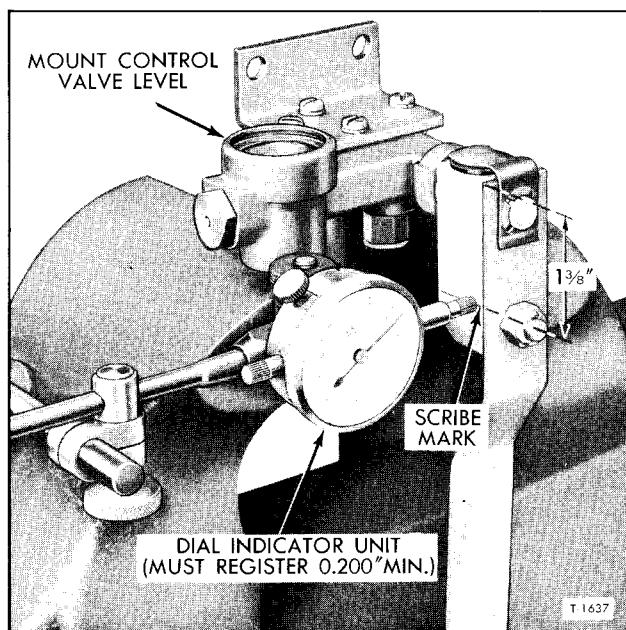
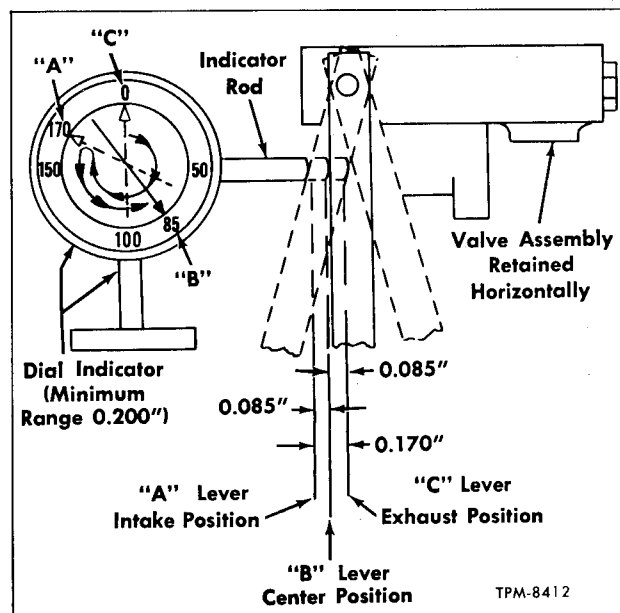

Figure 26—Dial Indicator Properly Installed
Figure 27—Locating Valve Overtravel Lever Center Position
4. Referring to figure 26, scribe a line 1-3/8-inch from plug end of overtravel lever control body.
5. Place valve assembly in vise as shown in figure 26.
8. Locate dial indicator in position as shown in figure 26. Move overtravel lever to full air exhaust position - TOP OF DELAY PISTON FLUSH WITH TOP OF BORE - without overtraveling (position "C," fig. 27). Relocate indicator push rod to just contact 1-3/8 inch mark on control body and reset indicator dial to zero (0) at this point (position "C," fig. 27).
9. Move overtravel lever to full air intake position without overtraveling (position "A," fig. 27) (delay piston at bottom of bore). Take indicator reading which may vary from 0.160" to 0.190".
11. Divide the total travel dimension by two (example: $0.170" \div 2 = 0.085"$), then move overtravel lever back this amount (0.085") to the center (position "B," fig. 27).